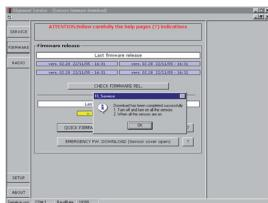

Fig.29
7. Wait for completion of the procedure, shown by the message in figure 29.